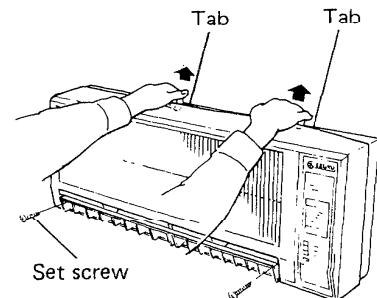

Fig. 13
- b) Pull up the casing by hand, press down on tabs on top, then withdraw the casing by pulling it back straight. Fig. 13